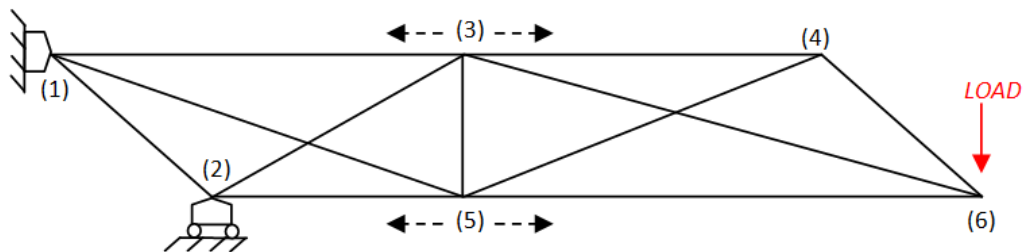

Figure 3. FE model for task (b)
Model (b) is a two-dimensional pin-jointed structure loaded at node (6) as shown in Figure 3. AI tries to optimize the position of element (3)-(5) by allowing its “asynchronized” movement along horizontal axis in order to minimize displacements in the structure.